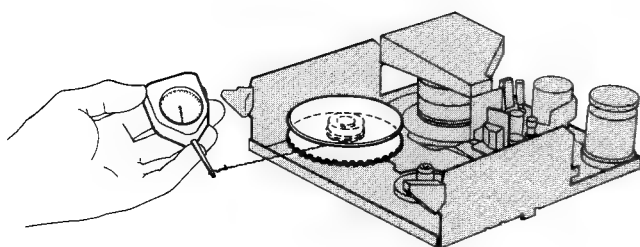

Fig. 2-1
- Alternatively, using a piece of cord wrapped around a cassette spool small diameter hub the linear pull should be between .1 and .12 Newtons (10 and 12 g) (Fig. 2-1).